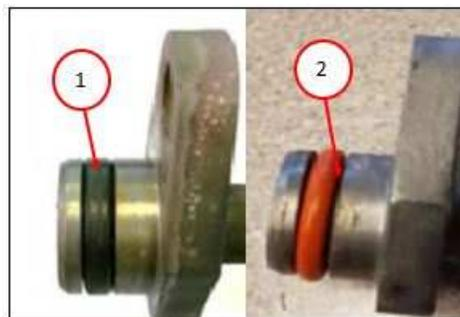

Fig. 2
2. Replace the O-ring attached to the end of the coolant return hose (Fig. 2) with the new one listed in Parts Required.